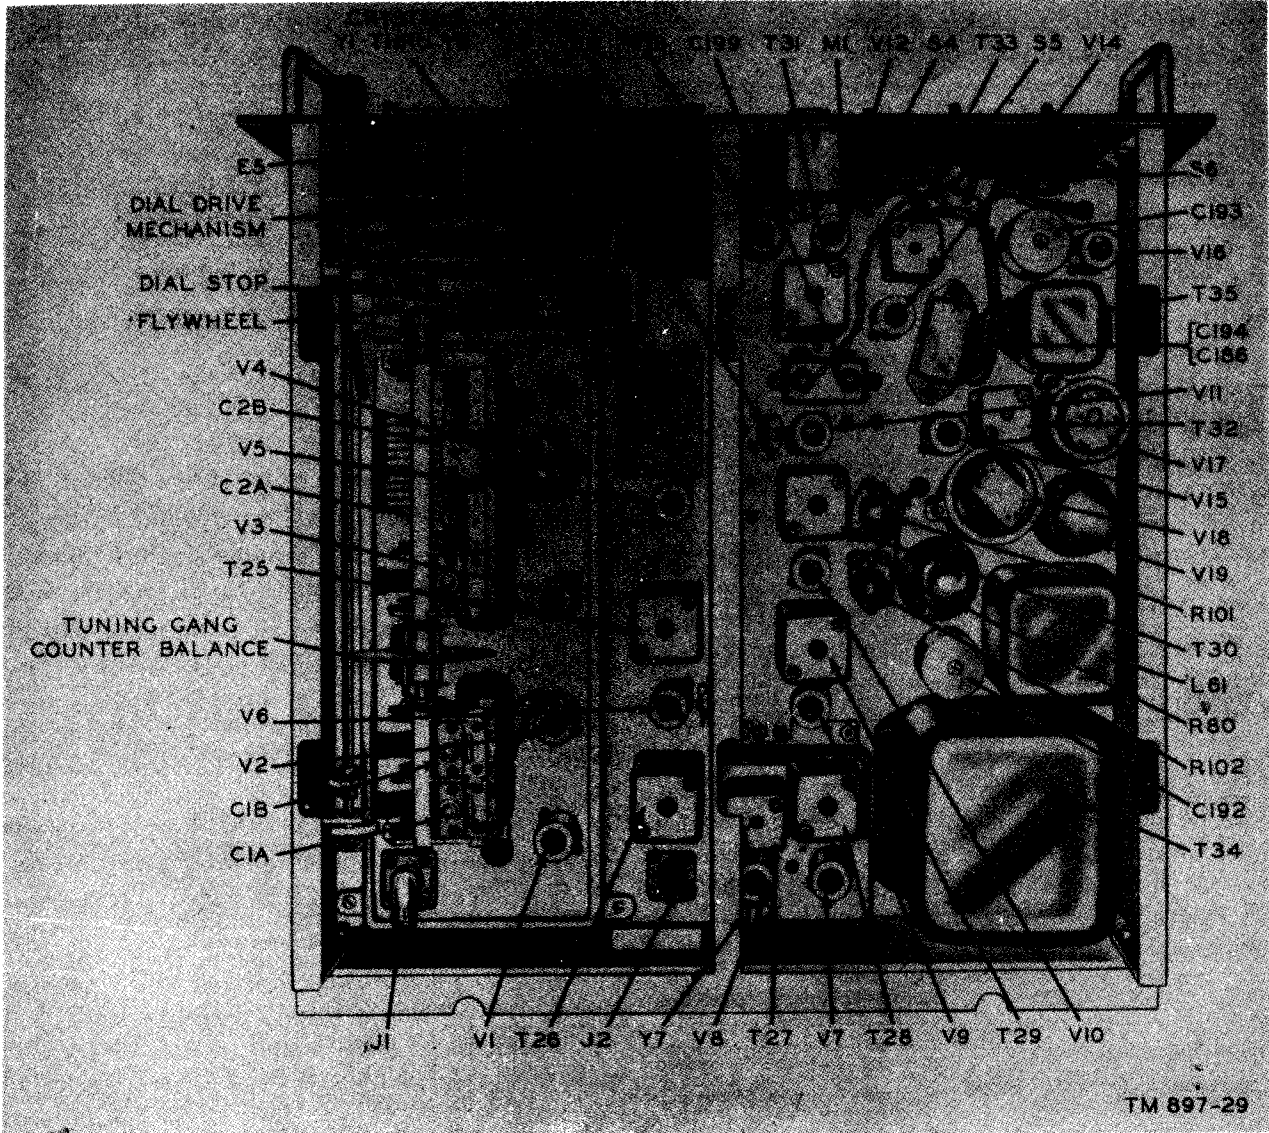

Figure 31. Radio Receiver R-274/FRR, chassis, top view.
a. *Tuning Gang Capacitors* (fig. 31). First, remove capacitors C1A and C1B (1st and 2d r-f sections). Disconnect the leads and ground straps. Loosen the two setscrews on the rear end of the shaft coupling with the Allen wrench supplied with the receiver. Next, remove the three chassis-mounting screws and slide the gang to the rear. It may now be taken from the chassis. To replace, reverse the above procedure. The coupling remaining on the end of capacitor C2A (mixer section) shaft is also a disk mounting for counter-balance weights. Capacitors C2A and C2B are removed in the same manner as capacitors C1A and C1B.
- (1) Disconnect the 2d mixer plate coaxial cable, relay, and disconnect the lead at the 6-mc transformer (T26) (fig. 31), terminal 7. Also, unsolder the ground connection. Use a small soldering iron, if possible, to prevent melting of the cable dielectric.